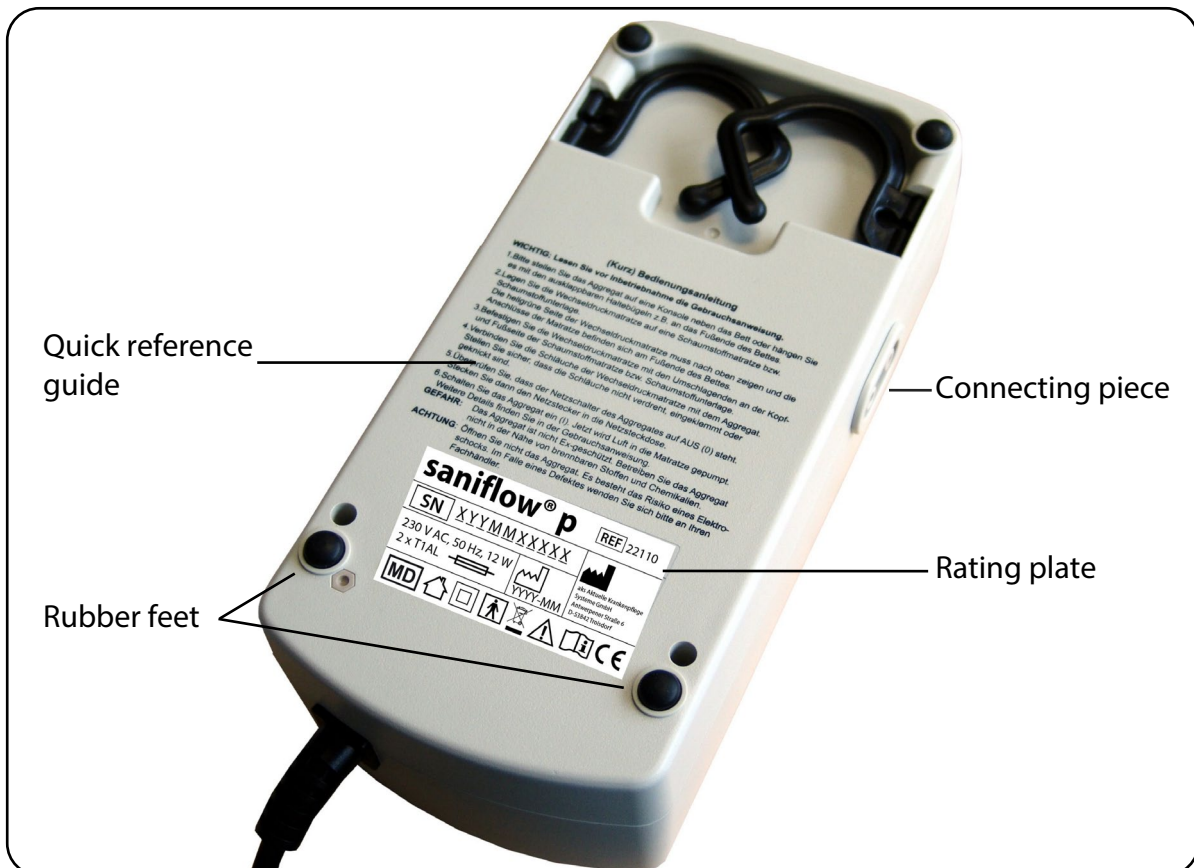

Fig. 5.02 - Rear view of saniflow® p pump unit
10. The pump unit has a suspension attachment (two retaining brackets) and four rubber feet on the reverse (Fig. 5.02). Attach the pump unit to the foot end of the bed using the two folding retaining brackets, or place it on a flat surface next to the bed with its reverse facing down.
11. Connect both the supply hoses of the alternating pressure mattress to the connecting pieces of the pump unit (Fig. 5.02). Make sure that the supply hoses are not twisted, pinched or kinked.
2. Disconnect the two ends of the supply hoses from the connecting pieces on the pump unit (Fig. 5.02).
4. After completion of the patient transport, attach the ends of both supply hoses to the connecting pieces on the pump unit (Fig. 5.02) and connect the pump unit to the mains supply.